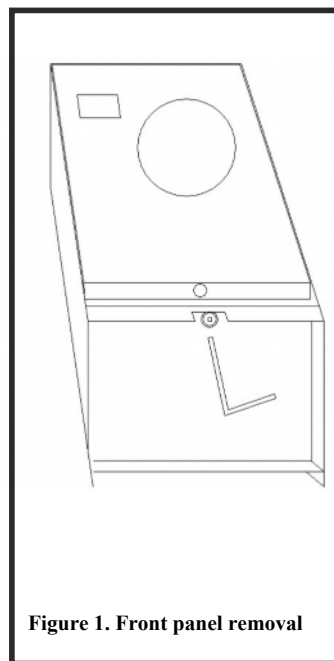

Figure 1. Front panel removal
- ii. See Figure 1. Using the 2.5mm hex driver remove the flang screw and remove the front panel by pulling towards base v lifting bottom edge slightly outwards and then lifting panel **IMPORTANT.** It is essential that panel recess is clear of case lip before attempting to lift panel out. Rotate front i withdraw 9 way connector from printed circuit board, thus : front panel from the meter case. Set programming switches (s and place panel in a safe place.